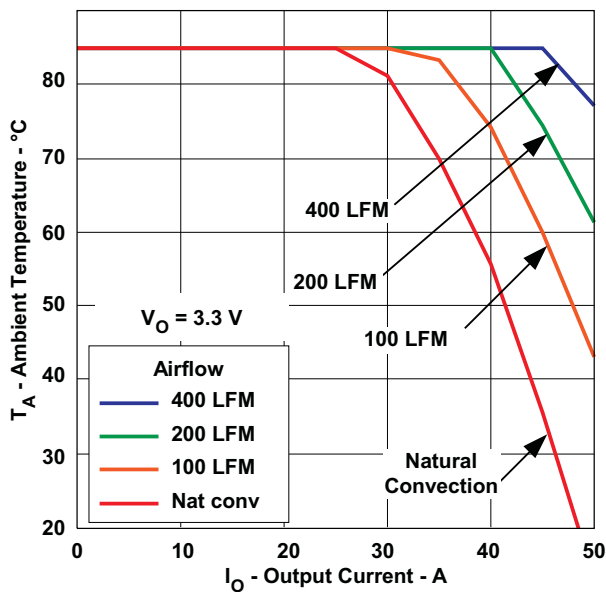
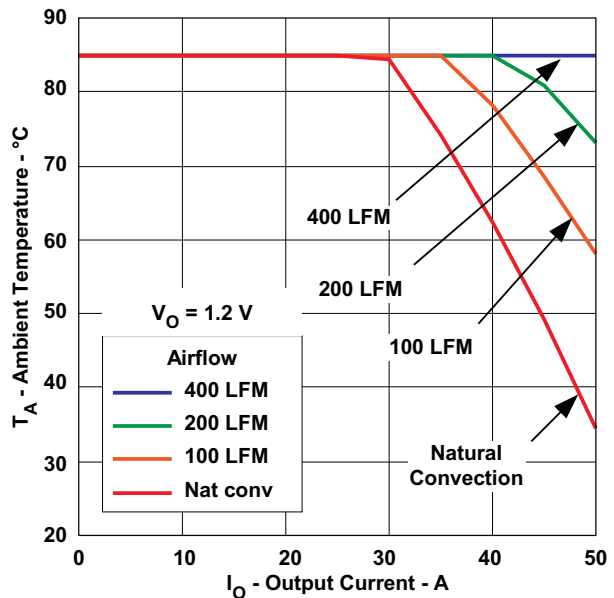

Figure 9.
Figure 10.
- (2) The temperature derating curves represent the conditions at which internal components are at or below the manufacturer's maximum operating temperatures. Derating limits apply to modules soldered directly to a 100 mm x 100 mm double-sided PCB with 2 oz. copper and the direction of airflow from pin 10 to pin 22. For surface mount packages (AS and AZ suffix), multiple vias must be utilized. Please refer to the mechanical specification for more information. Applies to Figure 9 and Figure 10.